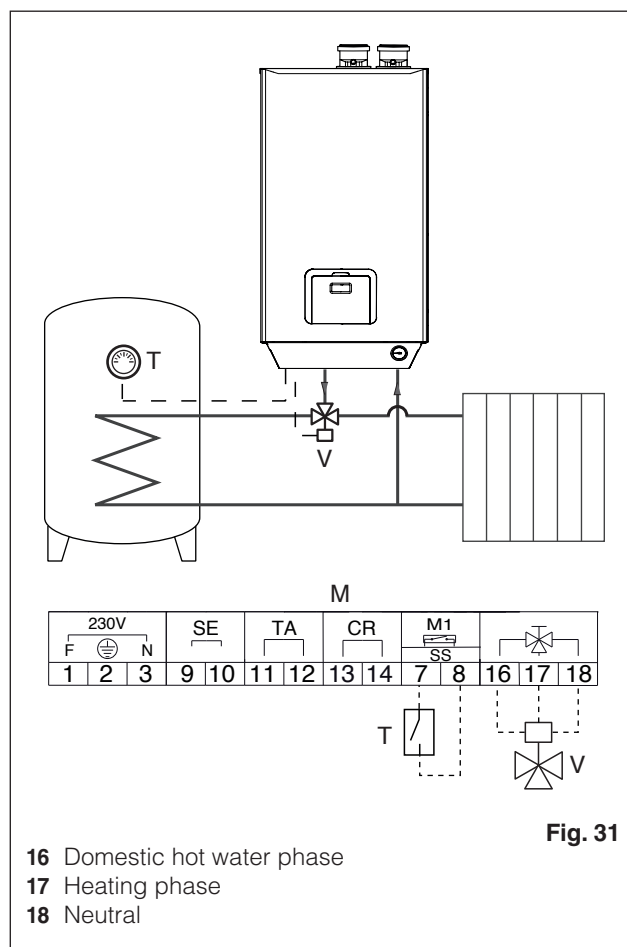

Fig. 31
- complete the water circuit shown in Fig. 31
- connect the electrical connections for the diverter valve (V) to contacts 16, 17 and 18 on the boiler's terminal board (M)
- connect the contacts for the storage tank's adjustment thermostat (T) to contacts 7 and 8 on the boiler's terminal board (M)